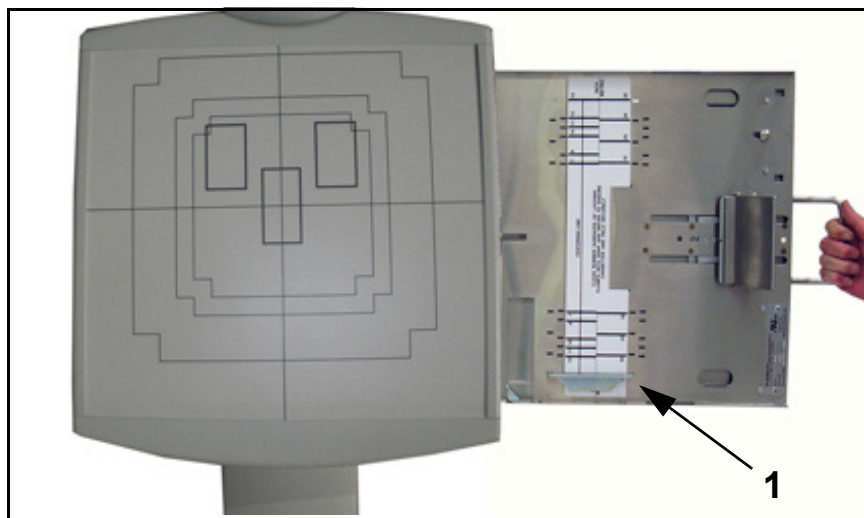

Figure 3-2. Cassette Tray
- 1 Manually pull the cassette tray (1 in Figure 3-2) out as far as it will go.